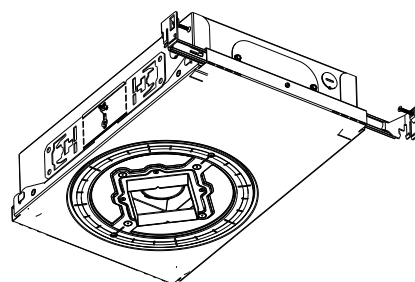

fig. 3
- d. Insert the outer hanger bar into the same housing slot, locking the inner and outer halves together. Tighten the hanger bar lock screw. Make sure the screw is on top (see fig. 3).
- b. Nail or screw the ends of both bars into the wooden joists, fixing the housing in place* (see fig. 3).